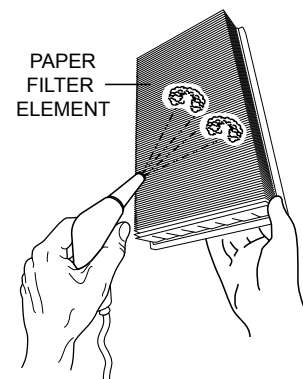

Figure 27. Cleaning Inner Paper Filter
3. Blow dry with compressed air 30 psi (207 kPa, 2.1 kgf/cm²) maximum against the side of the paper filter element (Figure 27) along the pleats. Then blow dry against outside along the pleats, then against inside again.